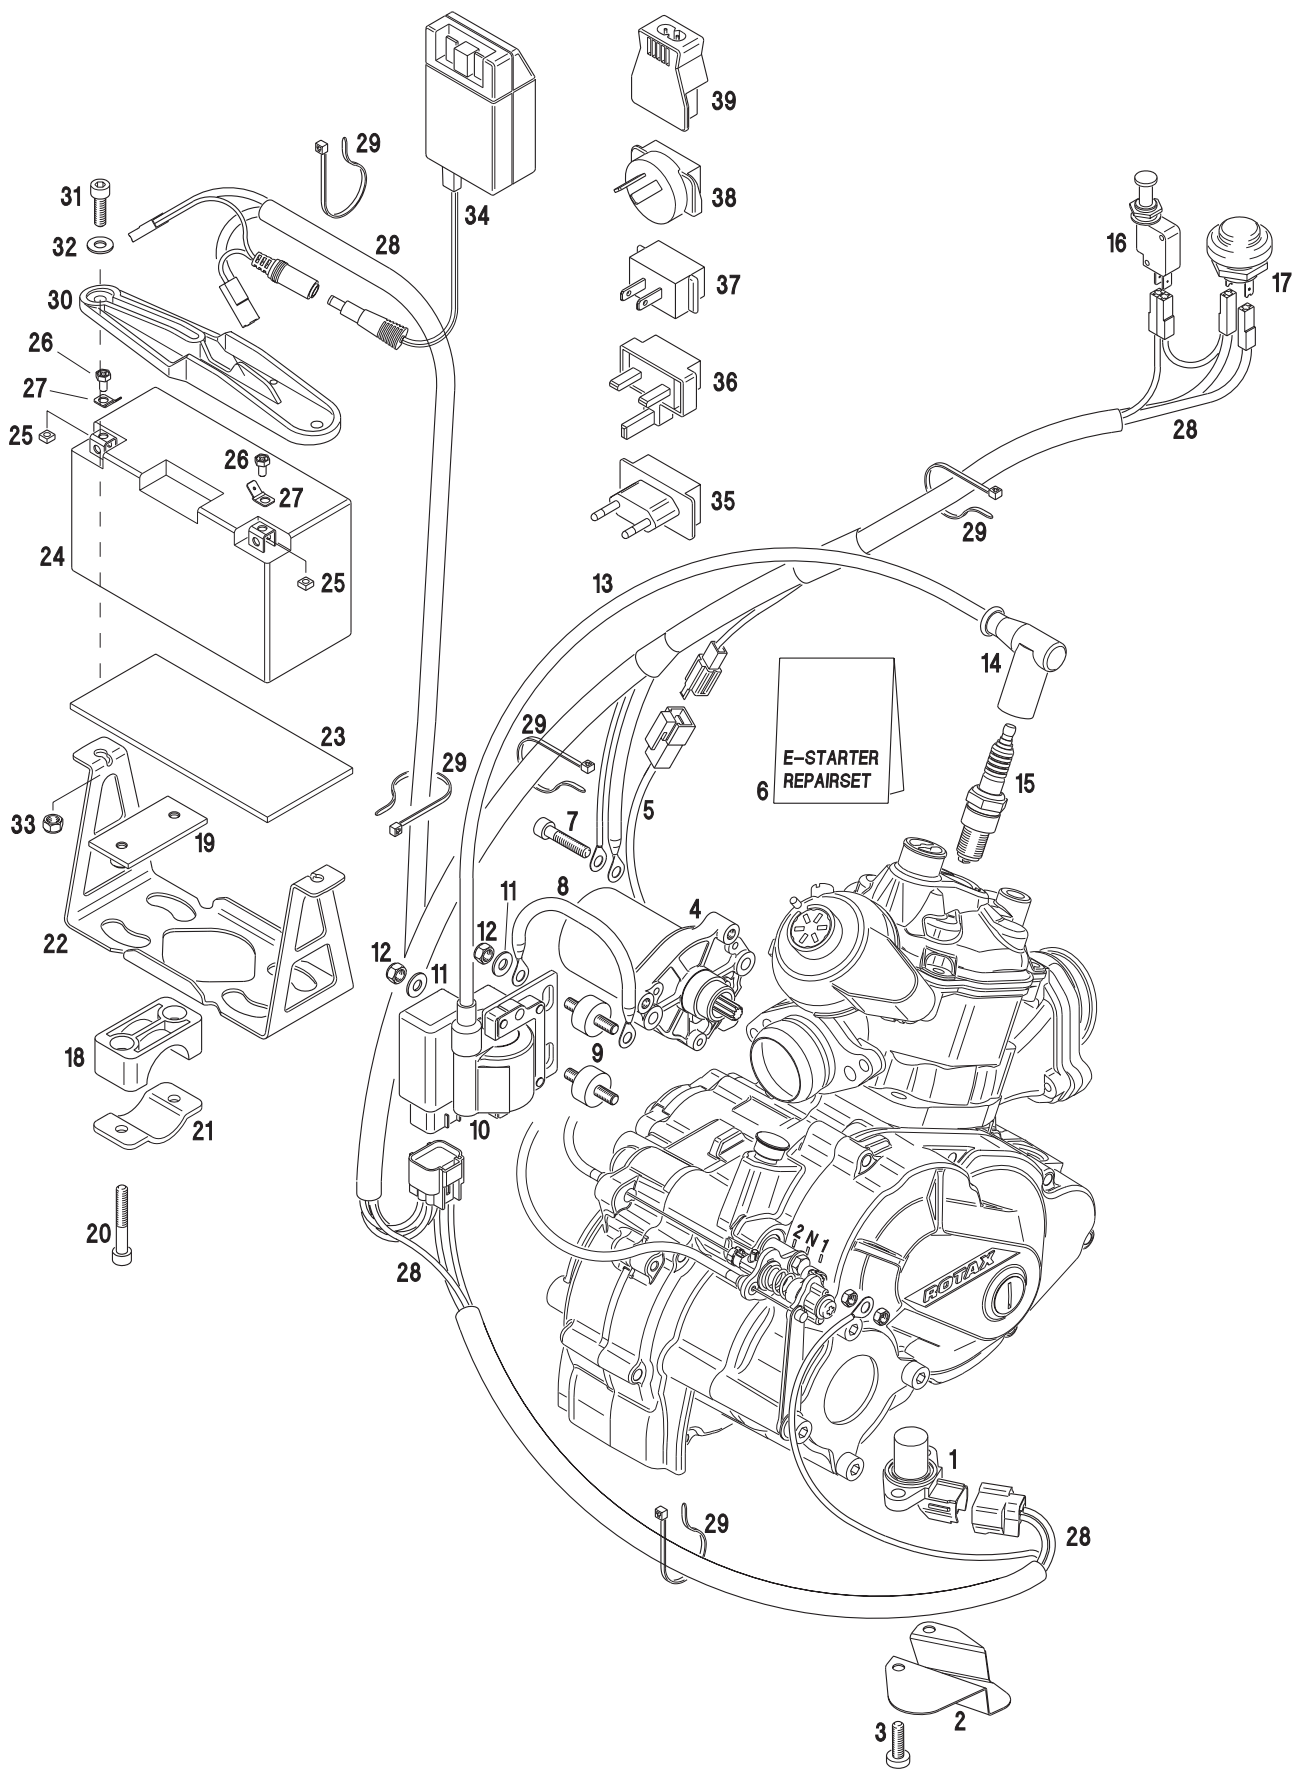

Fig. 8
For a well balanced weight distribution it is recommended to locate the battery either on an already designated support plate on the chassis behind the driver's seat or on the left side box beside the driver's seat. For proper attachment a fixture kit for the battery, (see figure 8, pos. 22) will be supplied with the engine by Rotax. For installation of the battery, proceed as follows:
- ➔ Attach the battery fixture (22) with the two pipe clamps (18 – 21) on a suitable location on the chassis.
- ◆ **Note:** The clamp (18) size is planned for chassis tubes of 32 mm (1,26 in) dia. On tubes of smaller dia. Compensate with layers of emery paper.
- **Attention:** Do not over tighten the screw (20) of the pipe clamps (18). Risk of clamp fracture.
- ➔ Put the rubber plate (23) inside the battery fixture.
- ➔ Put the battery into the fixture (22) for connecting the battery refer to section 19.
- ➔ Establish connections in accordance with figure 8.
- ➔ Connect the two cables of 6 mm² (0,0093 in²) section on start button (17).
- ➔ Connect the two cables of 2 mm² (0,0031 in²) section on ON/OFF switch (16).
- ➔ Attach the ignition coil with the support components supplied on gear cover as per fig. 8.
- ◆ **Note:** On the top attachment screw of the ignition coil connect also the additional grounding cable (8)
- **Attention:** The ignition coil must be attached flexible on the gear cover, exclusively via the two rubber mounts (9). Make sure that the ignition coil will not touch at no situation or vibration rigid parts of the frame (e.g. seat strut).
- ➔ Connect the wiring harness on the trigger coil (1).